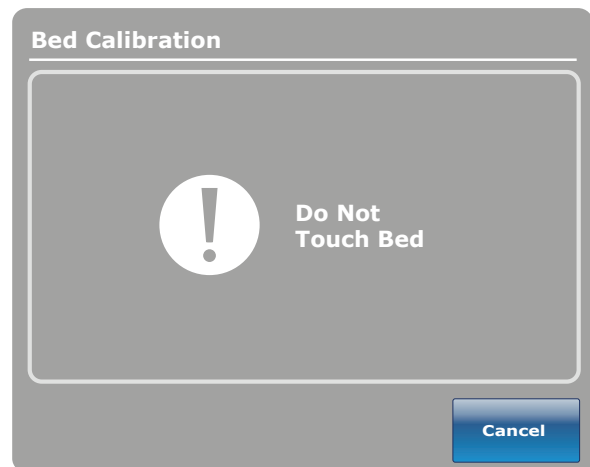

Figure 22: Do Not Touch Bed Screen
24. The “Do Not Touch Bed” screen will appear as shown in Figure 22.